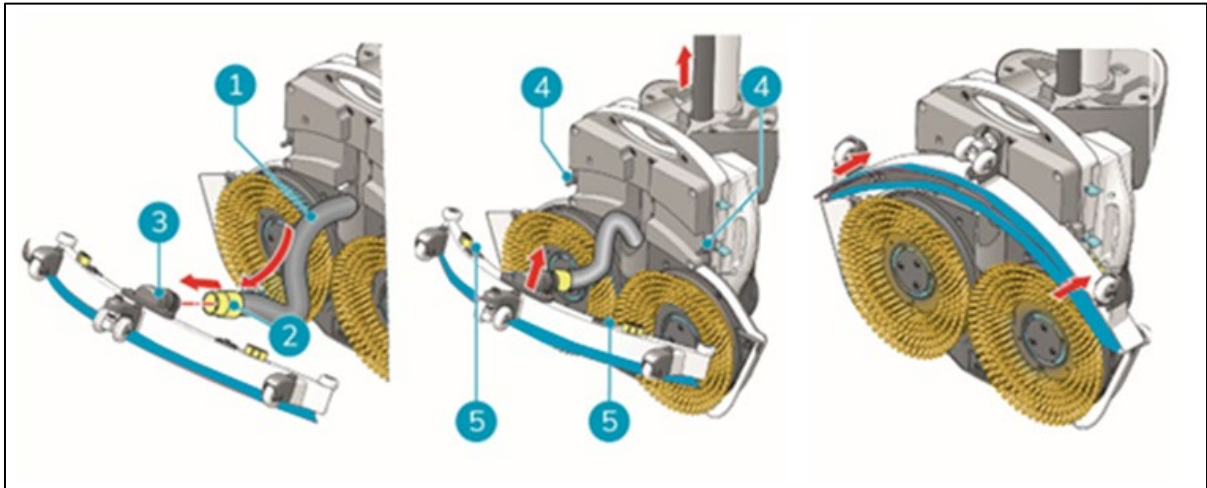

Figure 11
1. Take the vacuum hose (Figure 11, pos. 1).
2. Insert the hose connector (Figure 11, pos. 2) in the squeegee (Figure 11, pos. 3).
3. Twist the hose connector $\frac{1}{4}$ turn for a firm fit (Figure 11, pos. 2).
6. Align the pins on the scrub deck (Figure 11, pos. 4) with the holes on the squeegee (Figure 11, pos. 5).